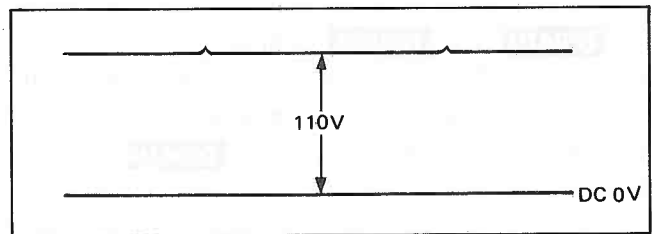

Fig. 46
- Connect a test point (**TPL1** , **TPL2** or **TPL3**) corresponding to the color emitted in Step (3) with the oscilloscope.
- Adjust Brightness VR (R5824) so that the Test Point becomes 110V as shown in Fig. 46.